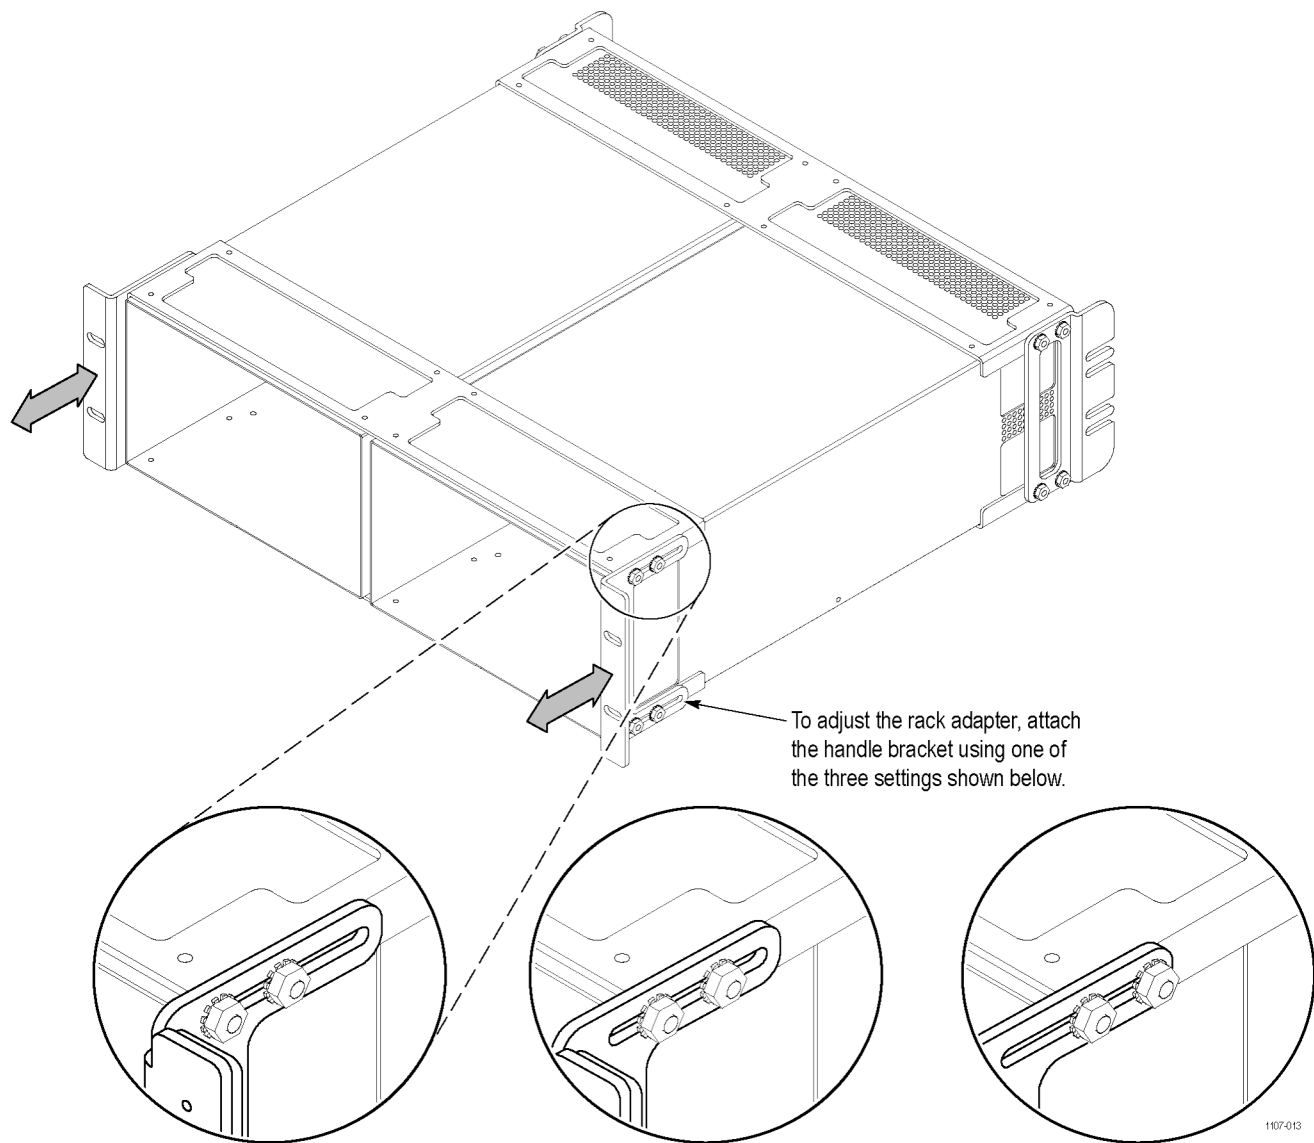

Figure 6: Adjusting the position of the handles
The rack adapter is marked with the word "TOP" to indicate which side of the adapter should face up. (See Figure 6.)
1. If desired, you can adjust the position of the handle brackets to mount the adapter flush with other equipment in the rack. To do this, loosen the nuts that attach the handle brackets to the rack adapter, adjust the position of the handle brackets as desired, and then tighten the nuts securely. (See Figure 6.)
1. If desired, adjust the position of the handle brackets to mount the adapter flush with other equipment in the rack. To do this, loosen the nuts that attach the handle brackets to the rack adapter, adjust the position of the handle brackets as desired, and then tighten the nuts securely. The handle brackets adjust the same way for the WFM Rack-S2 and for the WFM Rack-NN and -ON. (See Figure 6.)